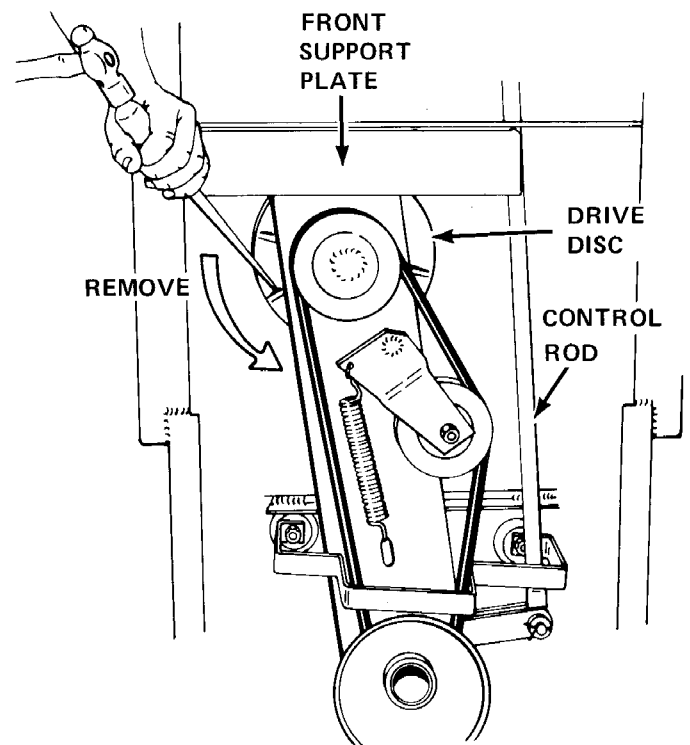

FIGURE 7
9. Remove pivot control rod. See Figure 7.
10. Remove front support plate. See Figure 7.